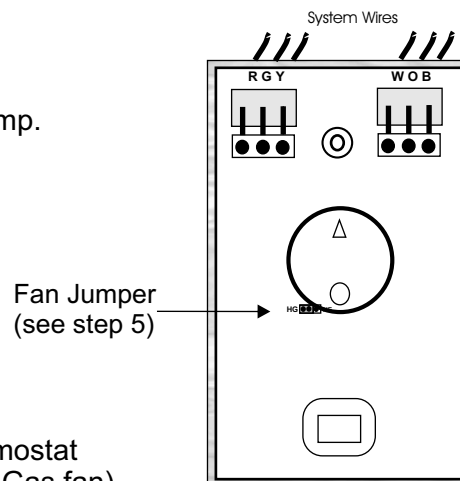

Fig 2
3. Mount the base with hardware provided. Fig 2
4. Attach the existing system wire as noted above. See Fig 2
See fig. 2.